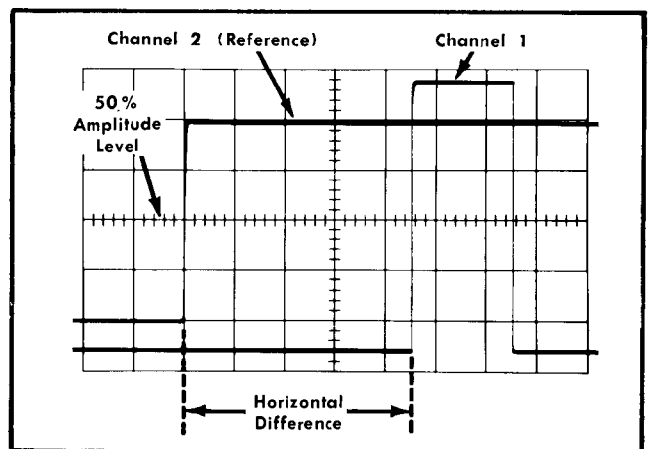

Fig. 2-7. Measuring time difference between two pulses.
11. Measure the horizontal difference between the Channel 1 waveform and the Channel 2 waveform (see Fig. 2-7).
Example. Assume that the time-base sweep rate is 50 microseconds/division, the magnification is  $\times 10$  and the horizontal difference between waveforms is 4.5 divisions (see Fig. 2-7).